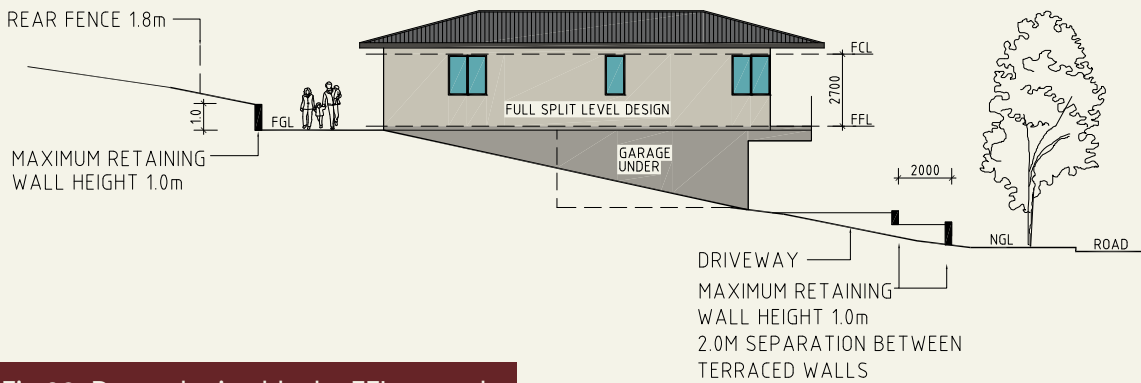

Fig 09: Down sloping block - FFL controls
3.3.2	Down sloping blocks must have a front FFL (finished floor level) no lower than 380mm from top of kerb level measured at the mid point of the block resulting in a maximum retaining wall height of 400mm. Refer to Figure 09 & 10.